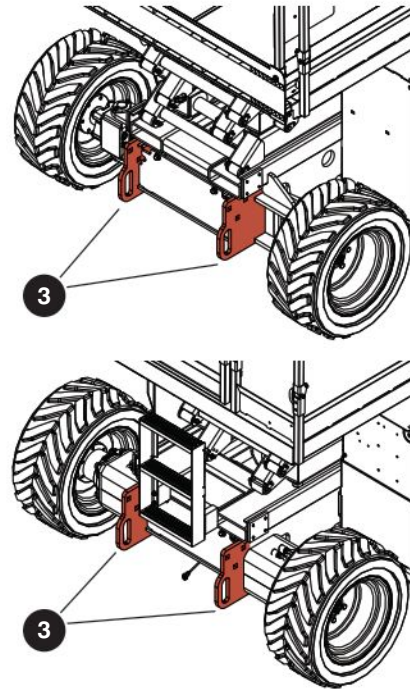

Figure 07 Tie-down/lift points
- Attach the rigging to all **four lift points** . Refer to Figure 07.
When you transport the MEWP, it must be attached to a truck or trailer deck. Use the available tie-down points ③ to attach the MEWP. Refer to Figure 07. If you do not obey, there is a risk of death or serious injury.
- Tie-down the MEWP to the transport vehicle using the **tie-down points ③**. Refer to Figure 07.